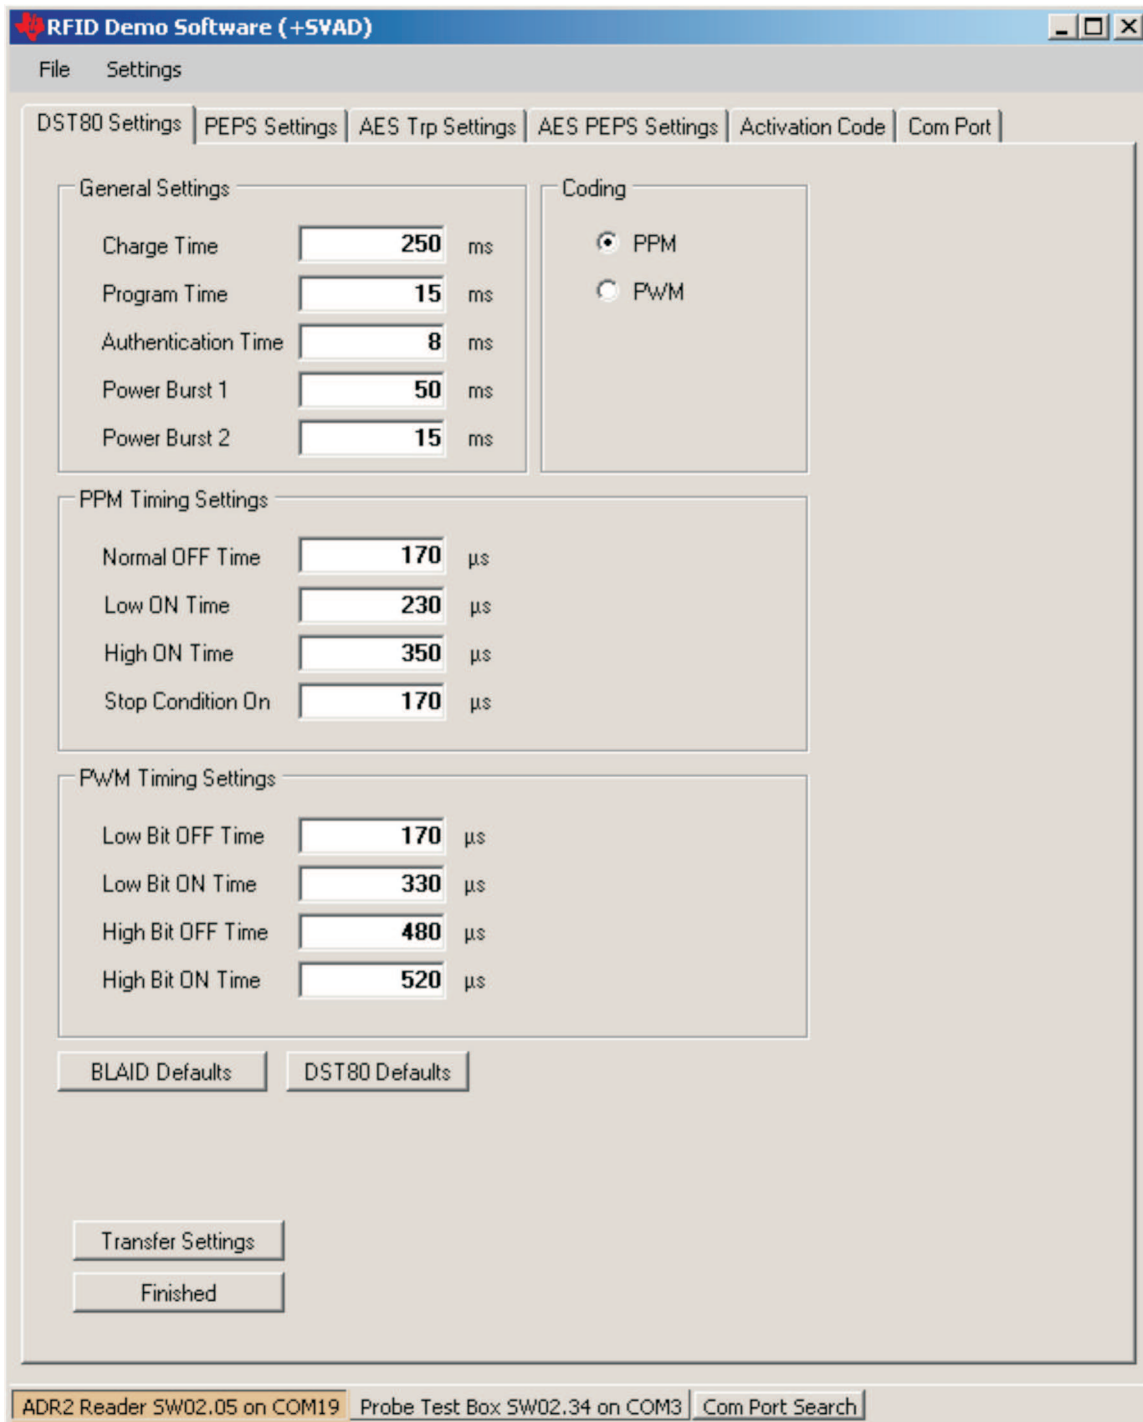

Figure 18. RFID Demo Software (DTS80 Defaults)
4. Setup all the entries as shown in Figure 18 when the page below appears: